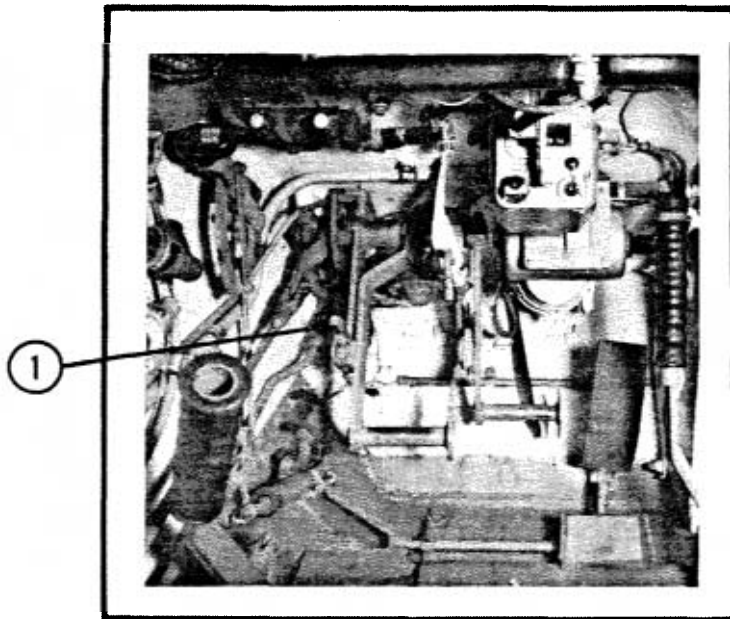

FIG. 2-6. MECHANICAL CLUTCH
The clutch is a multiple-disc dry-friction, steel-on-steel type and is one of the most vulnerable parts of the T-62/T-62A. The air-assist lever is on the mid-left arm of the clutch pedal (Figs. 2-6/2-7). This lever is used to provide compressed air-assisted clutch operations when shifting to reduce clutch wear. The air-assist can be engaged by pushing the lever to the left. This clutch pedal engages and disengages the master clutch when released and depressed.
f. Insure that the air assist lever is in the 12 o'clock position; thus, the air clutch is not engaged (Fig. 2-6).